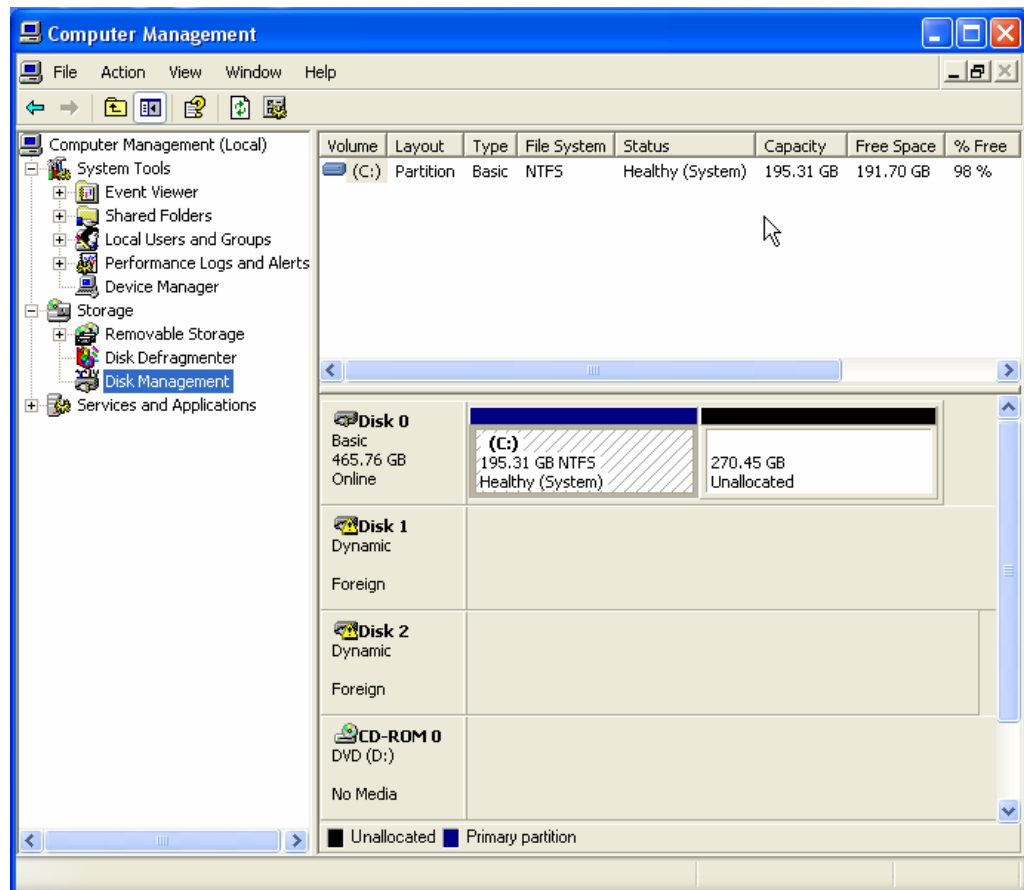

Figure 5-10
- 10) Click the '+' symbol next to the **Storage** item (if this item is in its collapsed state) in the left-hand navigation pane, and then select the **Disk Management** item. You should see two disk drives similar to those shown in Figure 5-10.